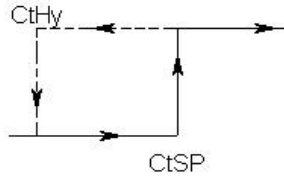

Fig. 3
* *The function of " Control value " setting, refer to page 12, Fig. 3.*
- * *The function of " Control Hysteresis value " setting, refer to page 12, Fig. 3.*